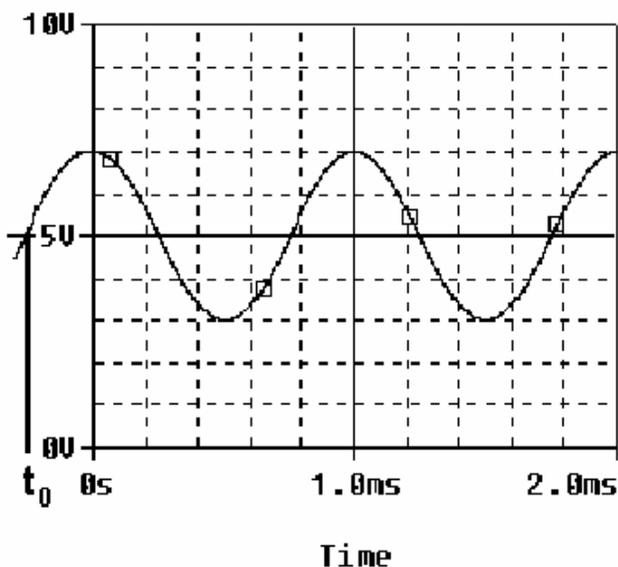

Figure A-3.
*Adding a DC offset:* If we add a DC offset voltage to the sine wave signal, as shown in Figure A-3, it moves the wave such that the center is around the DC offset. The equation becomes  $v(t) = A \sin(2\pi ft) + V_{DC}$ . In electronics, the AC and DC parts of a signal can be treated as two mutually exclusive entities.